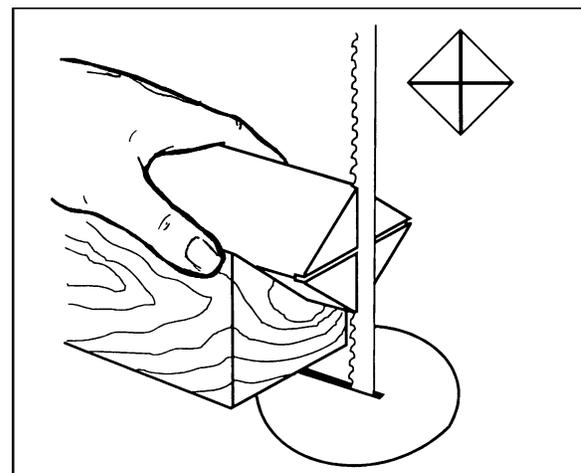

Figure 37
2. Extremely hard woods may require kerfs cut into the ends of the stock (Figure 37) using a band saw, so the wood will accept the spur center and the live center.